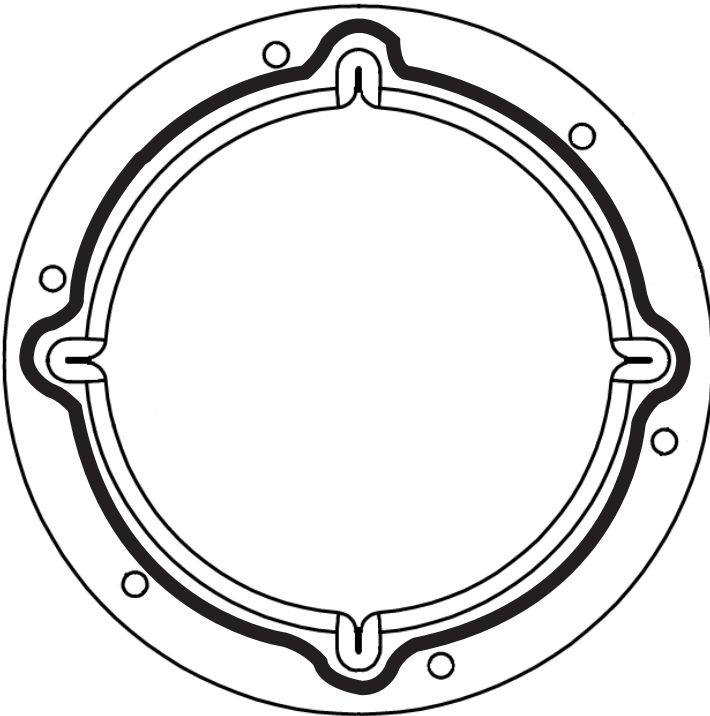

FIG. 2
Apply Gasket (B) around the discharge hole of the Cyclone (A), making sure that the Gasket goes inside the bolt holes and around the inlet hole [FIG. 2].